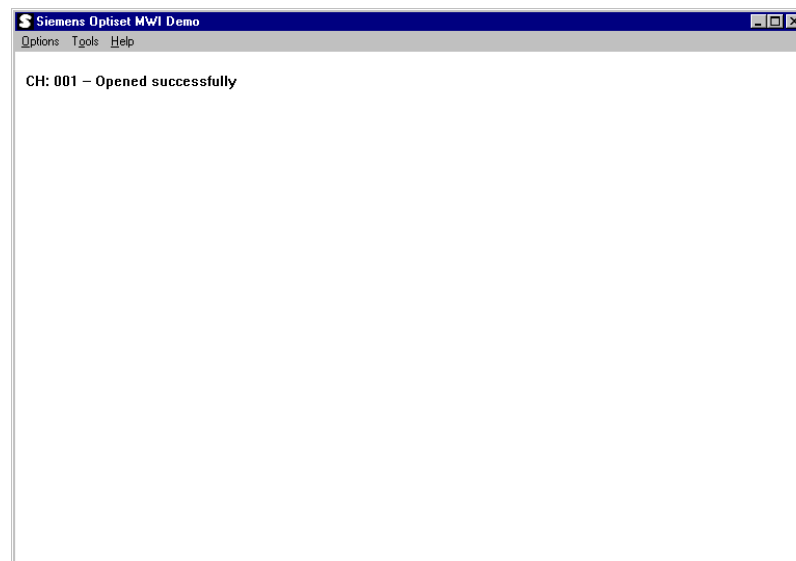

Figure 27. Channel Opened Message
6. If the channel opens, the Siemens Optiset MWI Demo window displays a success message as shown in *Figure 27*.